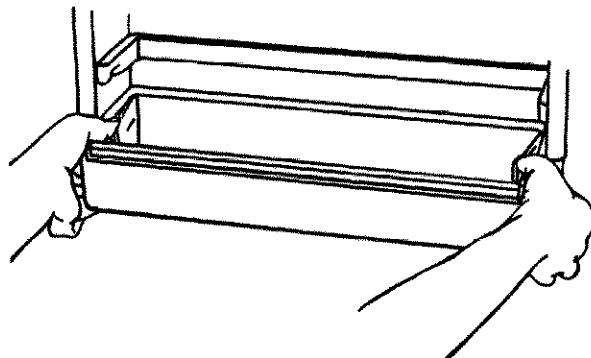

Figure 7
- With thumbs and forefingers of both hands, push and hold lock tabs toward center of bucket. See Figure 7.